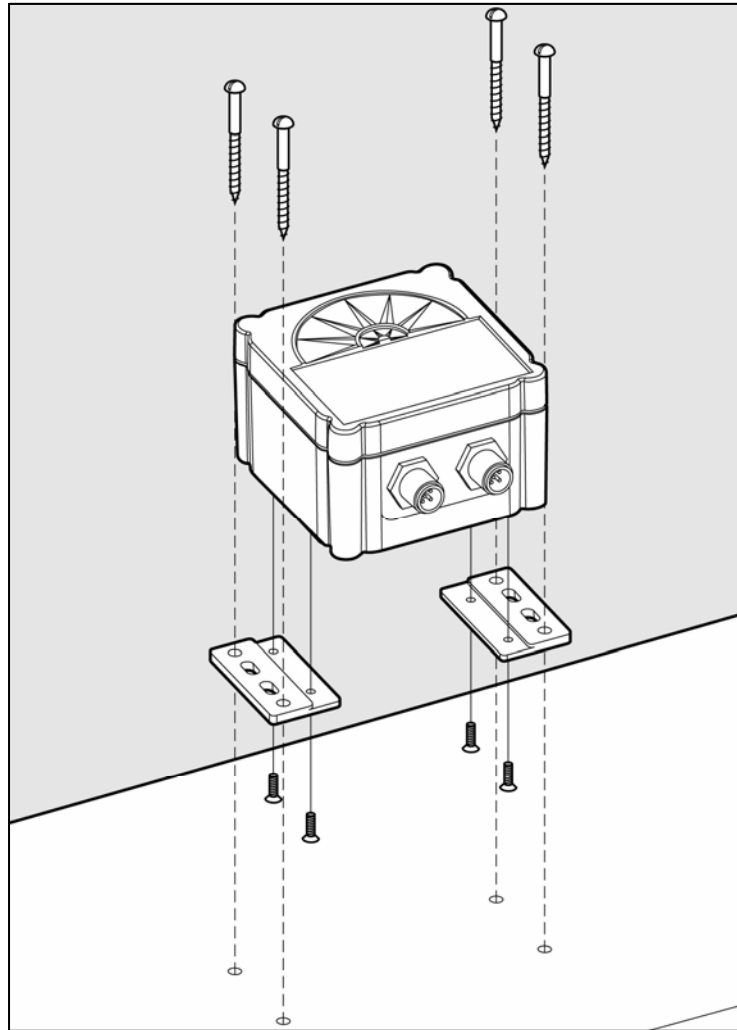

Figure 1 – Mounting the SSC200 to a Horizontal Surface
Mounting the SSC200 compass to a horizontal surface requires that the provided mounting brackets be fastened to the bottom of the SSC200 using the provided brass flat head screws. Once the mounting brackets are securely fastened to the bottom of the SSC200, attach the SSC200 securely to the vessel using the included brass mounting screws or other non-ferrous fasteners as shown in Figure 1. Do not use threadlocking compounds containing methacrylate ester, such as Loctite Red (271), as they will cause stress cracking of the plastic enclosure.